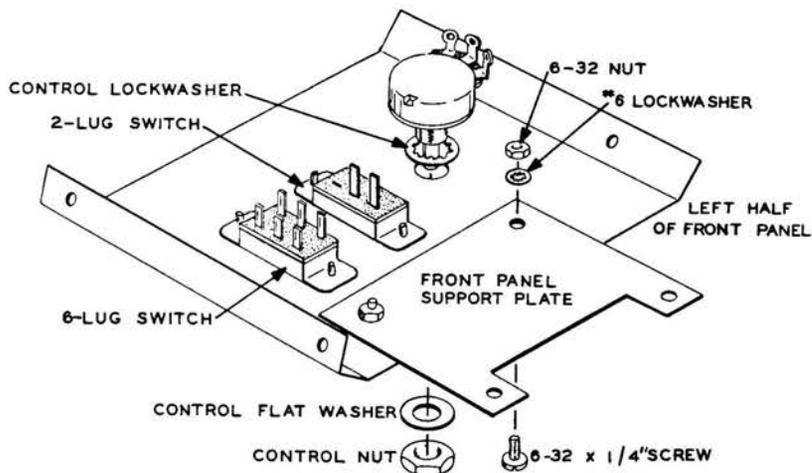

Figure 3F
Refer to Figures 3F and 3G for the following steps.
- () Place the left half of the master front panel (with the large round hole and two rectangular holes) as it is shown in Figure 3F.
- () Fasten the 5000 Ω control as shown in Figure 3F using a control lockwasher, control flat washer and a control nut.
- () Fasten the 2-lug switch as it is shown in Figure 3F, using 6-32 x 1/4" screws. The two switch lugs should be positioned as shown.
- () Fasten the front panel support plate to the front panel as shown in Figure 3F using 6-32 x 1/4" screws, #6 lockwashers, and 6-32 nuts. Do not tighten yet.